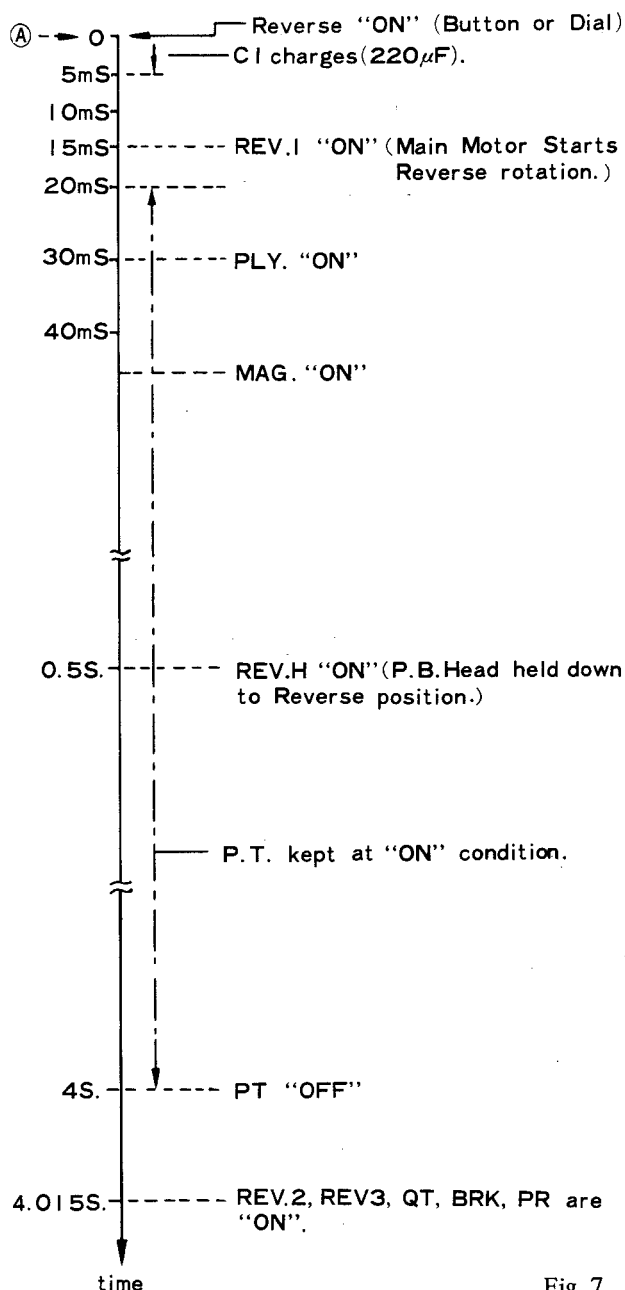

Fig. 7
Sequence of operation when the REVERSE Button is depressed, or when the White Mark on the Tape Count Meter reaches the Black Arrow of the Reverse Set Dial as follows for Automatic Reverse. Assuming this is point (A), Figure 7 shows Relay and Solenoid operating sequence beginning at this point.